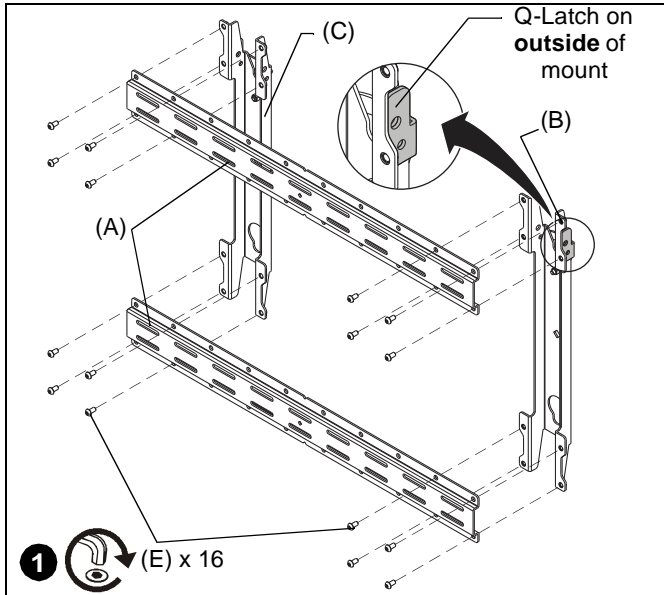

Figure 1
IMPORTANT ! : Be sure that Q-latches on vertical brackets are located on **outside** edges of mount. (See Figure 1)
1. Attach two vertical brackets (B and C) to two horizontal brackets (A) using sixteen M8 x 16mm buttonhead cap screws (E). (See Figure 1)